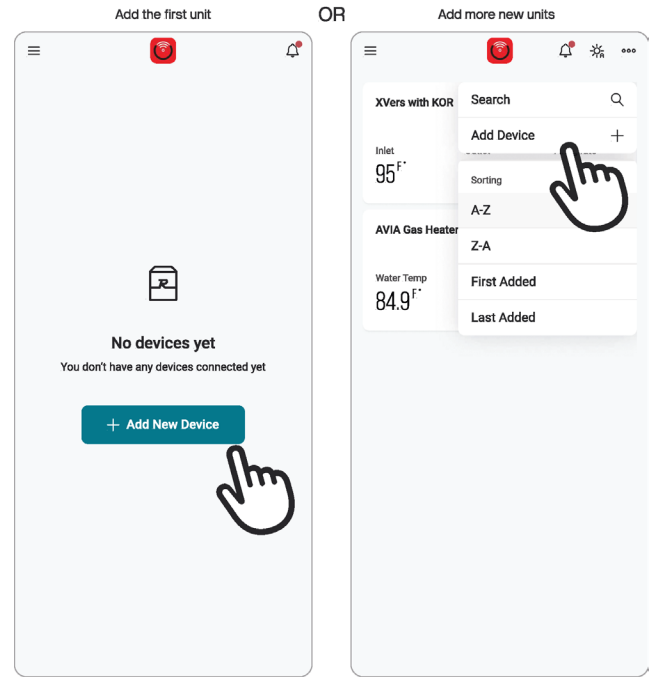

Figure 12. Add New Device
4. In the Raymonte app, press "+ Add a new device" for the first device or press the menu button ≡ located at the top right corner of the screen, then press "+ Add a new device". See **Figure 12**.